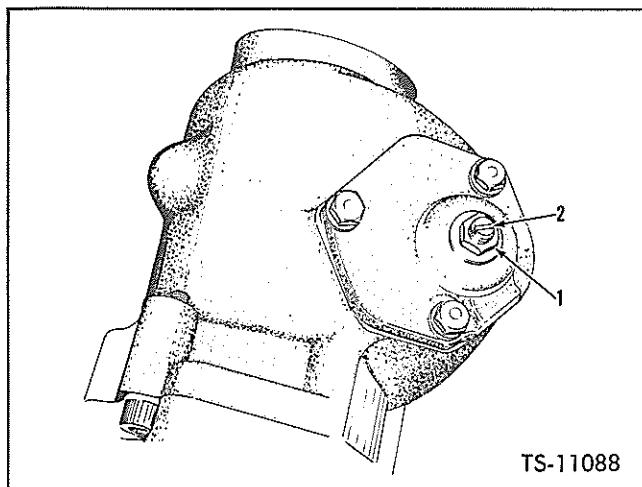

Fig. 39. Adjust Steering Gear
4. Loosen locknut Item 1, and turn adjusting screw Item 2, clockwise to increase pull at the wheel and counter clockwise to decrease the pull. See Figure 39. Reset locknut and recheck pull as it must be within the specified limits after the locknut is tightened.